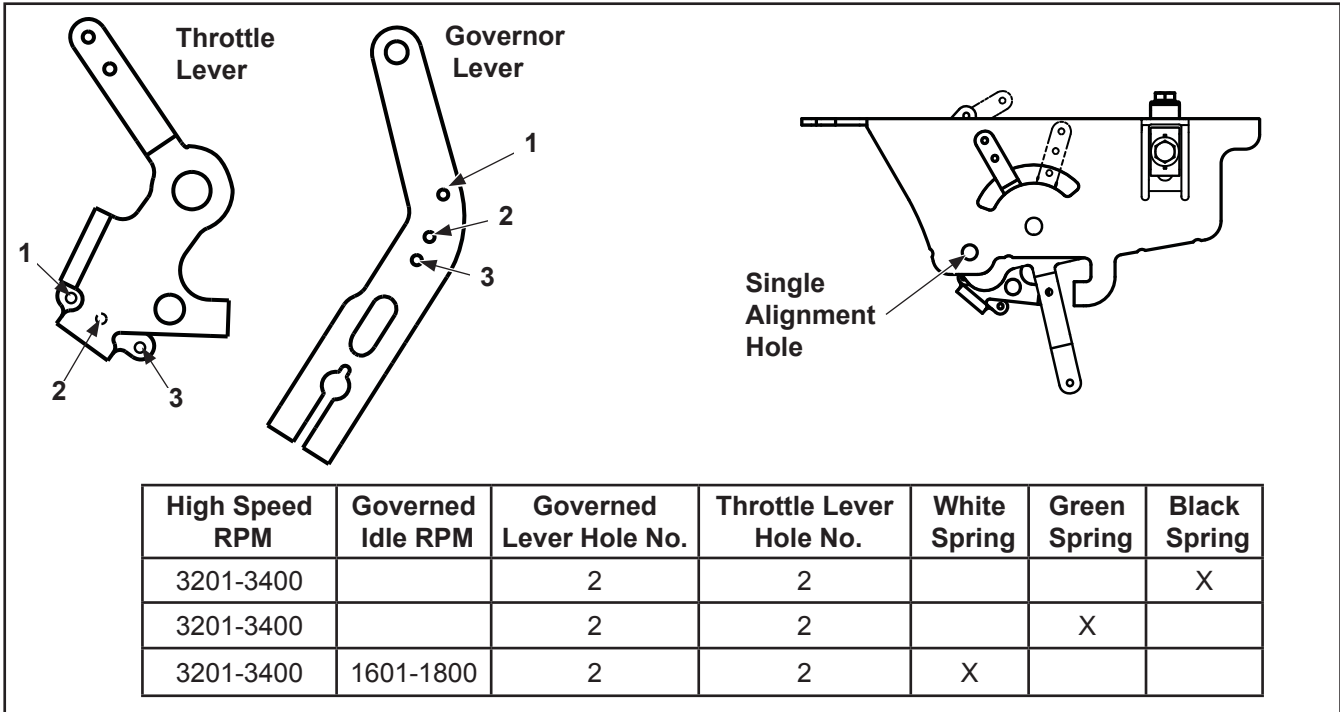

Figure 5-27. Early Style Governor Spring Location Chart.
1. Check that the governor spring and installation matches the intended high speed RPM operating range. Refer to Figure 5-27 or 5-28.
The desired high speed setting (RPM) will determine the governor spring position in the governor lever and the throttle lever, as well as the spring used. See Figure 5-27 and 5-28.